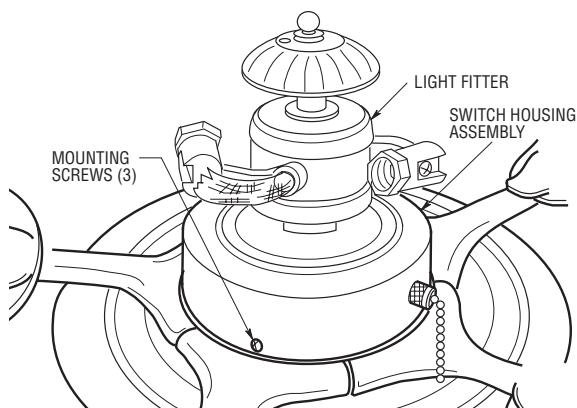

Figure 7
14. Remove the three switch housing mounting screws (Figure 7) from the switch housing plate. Position the switch housing assembly on the switch housing plate and align the holes in the switch housing assembly with the holes in the plate. Secure the switch housing assembly by installing the three mounting screws (Figure 7).